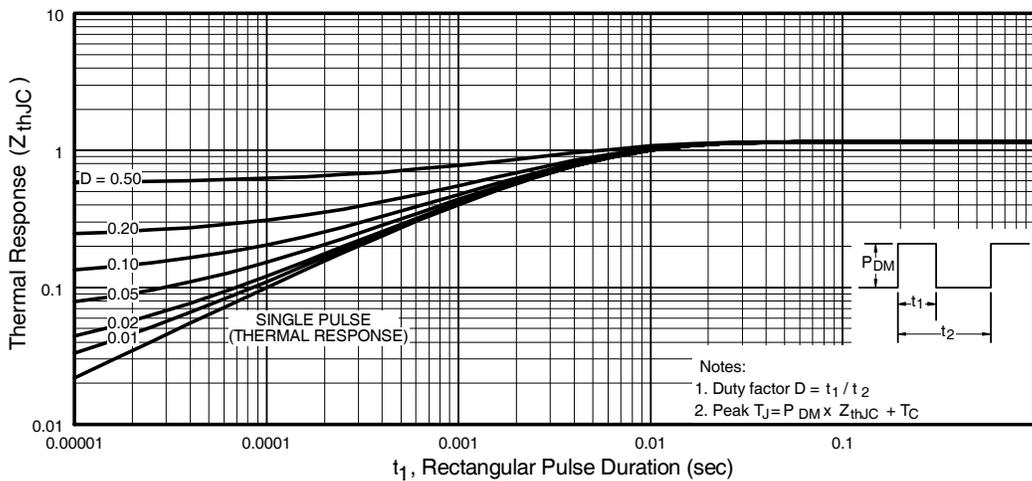

Fig 11. Maximum Effective Transient Thermal Impedance, Junction-to-Case
- ① Repetitive rating; pulse width limited by max. junction temperature. (See fig. 11)
- ② Starting $T_J = 25^\circ\text{C}, L = 1.5\text{mH}$